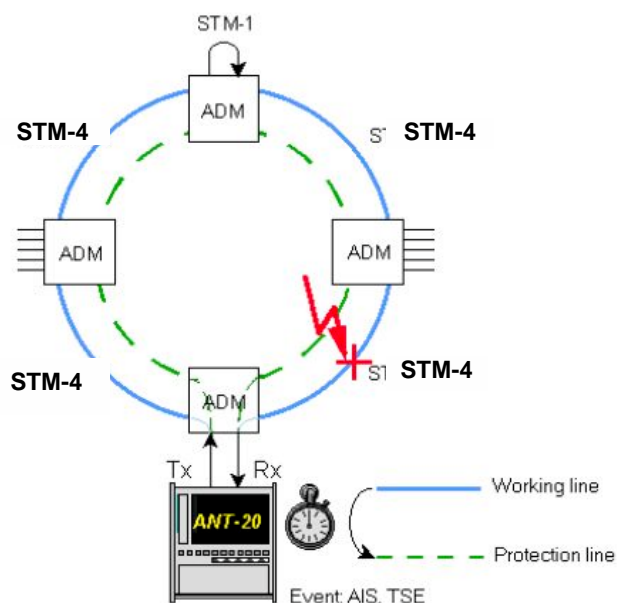

Fig.1 Experimental set-up to measure APS switching time
Experimental set-up is shown in fig.1
1. Make the experimental set-up involving four STM-1/4 nodes in MS-SPRing/2 (MUX Section Shared Protection Ring on 2 fibers) as shown in fig.1